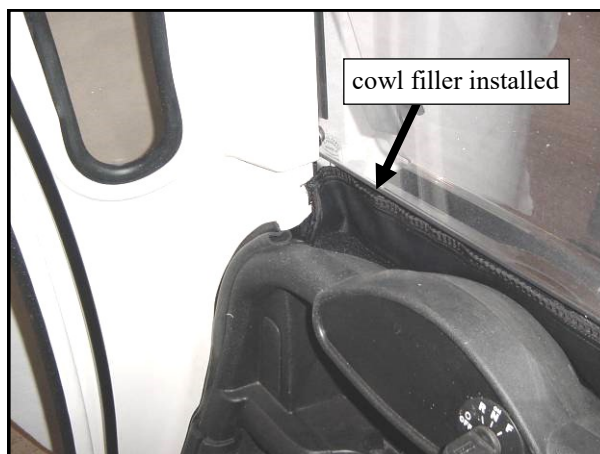

Fig. 8.3 (view taken from rear of passenger's side)
8.3 Per fig. 8.3, install the cowl filler to the newly installed velcro by estimating the approximate center for evenness. Peel apart and re-adjust if off center too much.